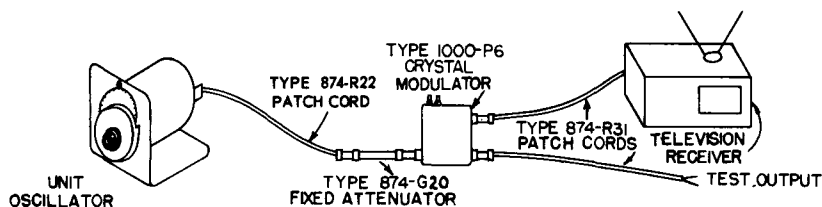

Figure 4. Setup of Unit Oscillator with Video Modulator for Use as Television Signal Generator.
3.3 UNIT OSCILLATOR AS A TELEVISION SIGNAL GENERATOR. Used in combination with a Type 1000-P6 Crystal Diode Modulator and a Type 874-G20 20-db Fixed Attenuator, the Unit Oscillator is a convenient source of television signals over its entire carrier-frequency range if video modulating voltage is available. (see Figure 4.) The modulating